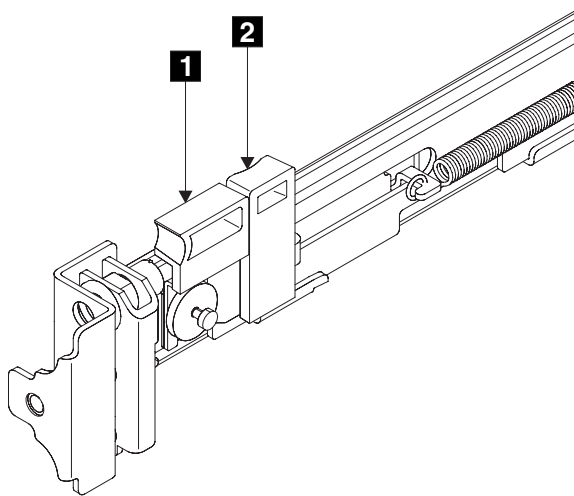

Figure 27. Retracting the latch lock carrier
4. Put your finger against the side of the latch lever **1** and put your thumb against the front of the latch lock **2** (see Figure 27).